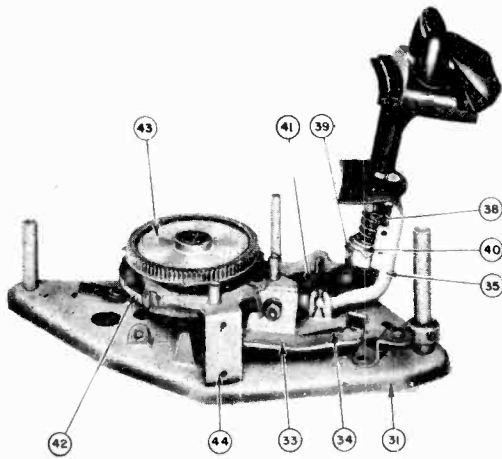

Fig. 4
3. Velocity Trip and Roller Assembly binding (44, Fig. 4).
4. Actuating Pawl stuck. This part of Main Cam Assembly, (42, Fig. 4), is engaged by hook end of Velocity Trip and Roller Assembly (44).
Proper operation of the automatic trip mechanism is as follows: When the movement of the Pick-up Arm toward the Center Post is greater than $\frac{1}{8}$ inch in $\frac{1}{2}$ revolution of the Turntable, the Automatic Trip Arm (26, Fig. 3) trips the Velocity Trip and Roller Assembly (44, Fig. 3). This releases the Actuating Pawl on the Main Cam Actuating Gear (43, Fig. 4) and drives the mechanism through the change cycle.
2. Velocity Trip and Roller Assembly binding (44, Fig. 4).
1. Velocity Trip and Roller Assembly (44, Fig. 4) rubbing on Main-Cam-Actuating Gear (42, Fig. 4).